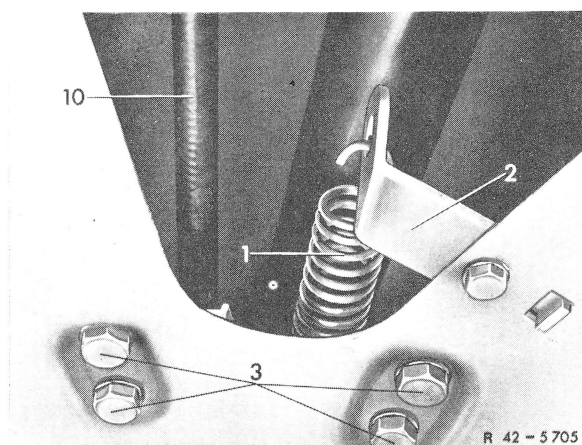

Fig. 1
- 2 Disconnect restoring spring on holder (2) (Fig. 1).
- 21** Attach restoring spring (1) to holder (2) (Fig. 1).